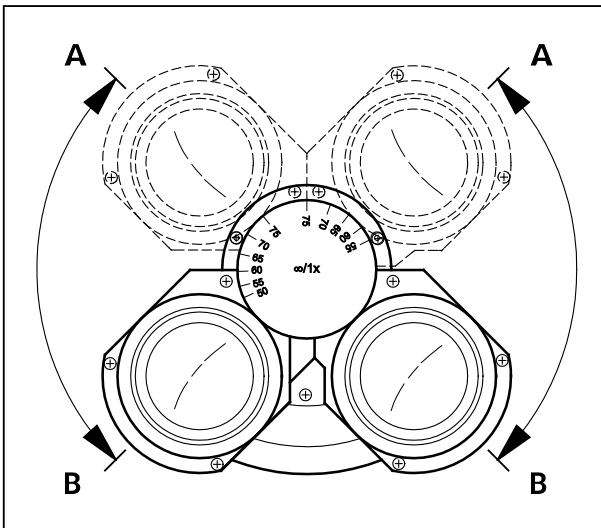

Fig. 15 Adjusting the viewing height
- Swivel the eyepiece tubes upward (Fig. 15/A) or downward (Fig. 15/B) to adjust the viewing height to your individual requirements.